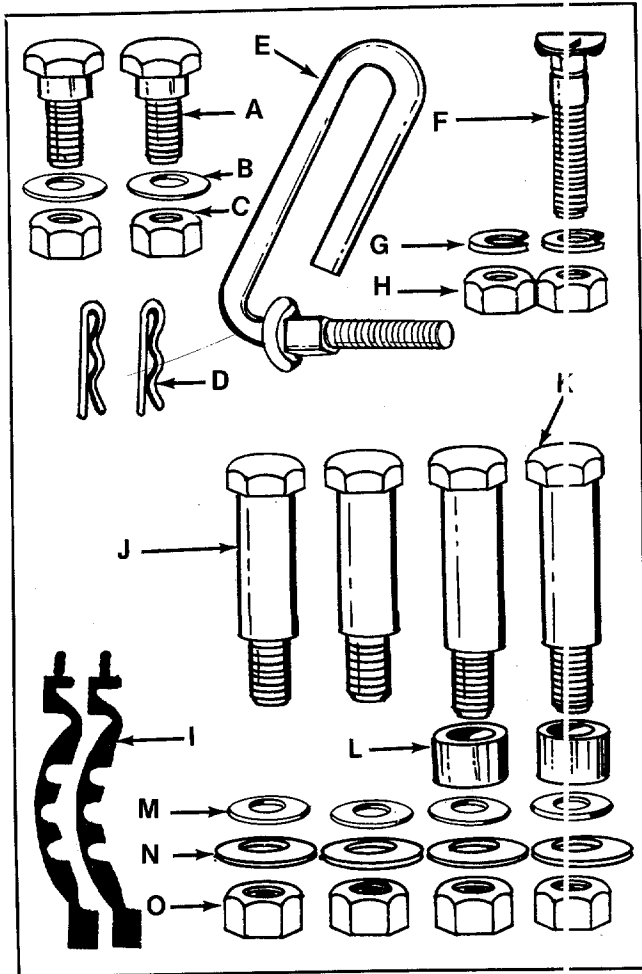

FIGURE 1.
**CONTENTS OF HARDWARE PACK: (See figure 1)**
- A (2) Shoulder Bolts (050 and 060)
- B (2) Belleville Washers 5/16" I.D. (050 and 060)
- C (2) Hex Lock Nuts 5/16-18 Thread (050 and 060)
- D (2) Hairpin Cotter (062)
- E (1) Rope Guide Bolt
- F (1) Curved Carriage Bolt
- G (2) Lock Washers 5/16" I.D.
- H (2) Hex Nuts 5/16-18 Thread